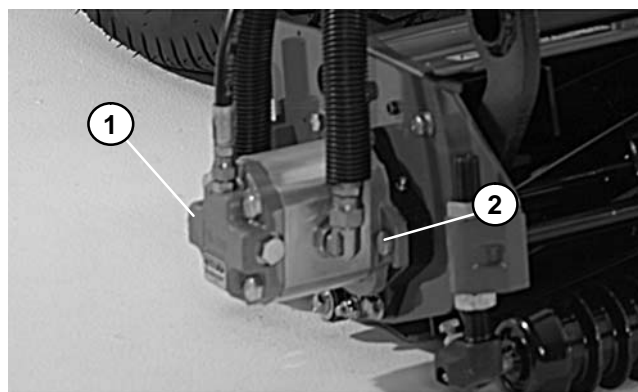

Figure 88
3. Loosen motor mounting nuts (Fig. 88).